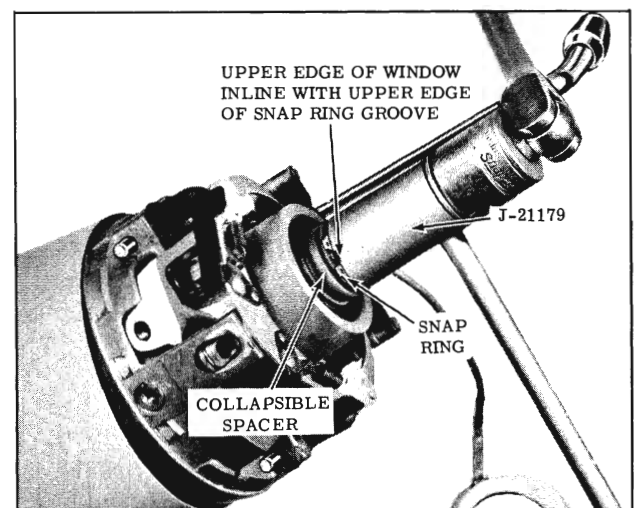

Fig. 4-107 Installing Upper Shaft Snap Ring
7. Install the snap ring over the steering shaft and against the collapsible spacer, then place Tool J-21179 over the steering shaft with the window in line with the snap ring opening. (Fig. 4-107)